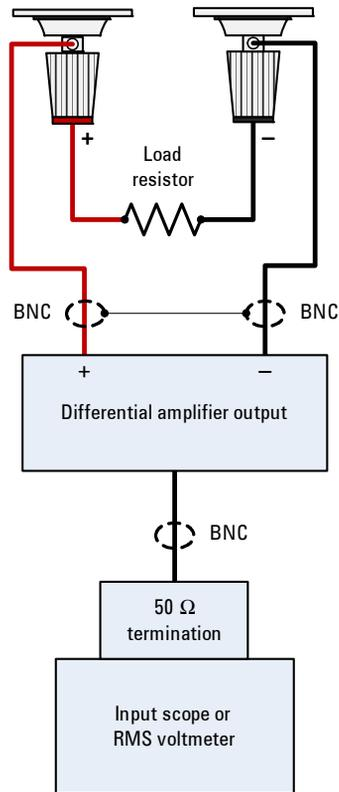

Figure 1-3 Test setup (C)
- 1 Power off the power supply, and connect the output to be tested as shown in **Figure 1-3** to a differential amplifier and load resistor (5 Ω for U8031A, 20 Ω for U8032A, and 1.67 Ω for Output 3).